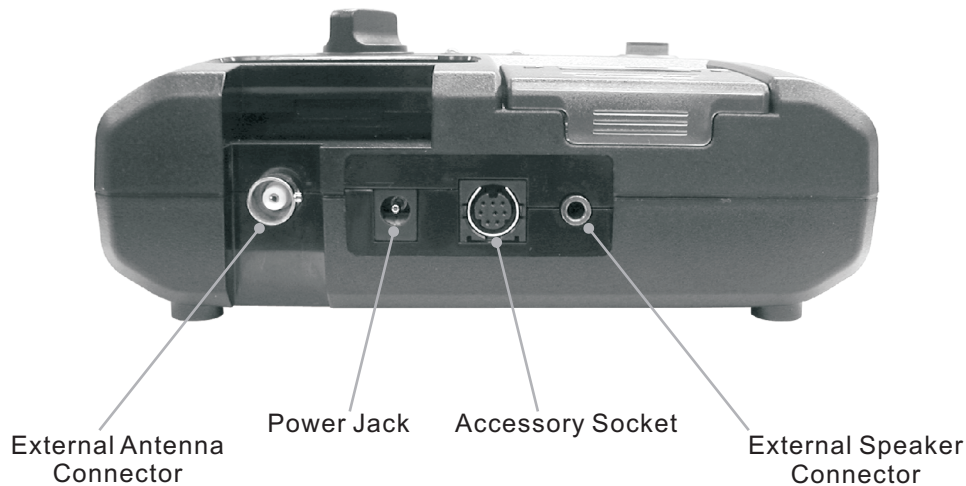

Fig. 1. Charger Amplifier Pin-Outs
The charger/amplifier is supplied with an external antenna for improved fringe area reception. The external antenna input jack is located on the rear of the charger/amplifier housing. (see **Fig.1**) When the proper antenna is connected, the RF signal is conducted through a cable to a pair of interconnect pins located in the charging compartment. When a pager is inserted into the charger compartment, an electrical path is established between the pager and the charger/amplifier via the interconnect pins.
The charger/amplifier contains an external speaker jack (2.5watt audio amplifier) and an internal speaker. An external speaker jack, located on the rear of the charger/amplifier housing (see **Fig.1**), allows the user to disable the internal speaker and route alerting and voice audio to external speakers or devices. (see **P.9 Remote Speaker Audio**)
1. Connect the power adapter to the charger/amplifier by plugging the DC connector on the end of the cable into the receptacle marked DC12V on the rear of the unit. (see **Fig.1**)
1. Attach the external antenna shipped with the charger/amplifier on the antenna connector on the back of the unit. (see **Fig.1**)